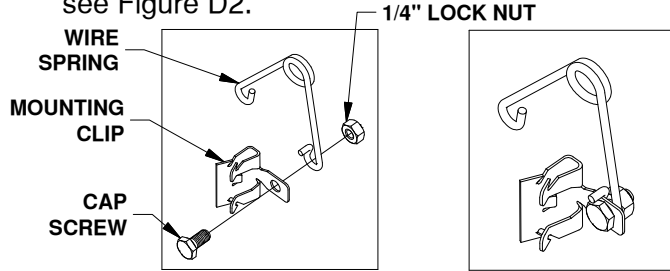

Figure D1:
1. **Assemble kit.** Locate the 1/4" cap screw and nut, along with the wire torsion spring and mounting clip. Pass the 1/4" cap screw through the mounting clip and the wire spring, as shown in Figure D1. Thread the 1/4" lock nut onto the 1/4" cap screw. Tighten the lock nut just enough that the spring will stay in place but will still be able to rotate around the bolt if needed, see Figure D2.